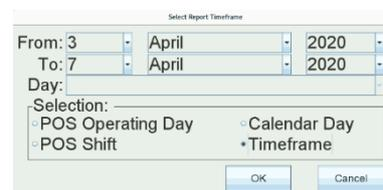

Figure 111: Report Timeframe Selection
- » After choosing the time interval or specific POS day/shift (Figure 111), the report is generated as in Figure 112.
- » After choosing the time interval or specific POS day/shift (Figure 111), the report is generated as in Figure 113.
- » After choosing the time interval or specific POS day/shift (Figure 111), the report is generated as in Figure 114.